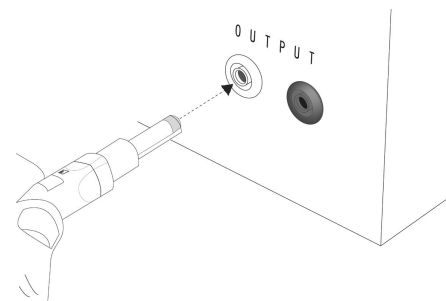

Fig. 2 C115CB male connector
5. Attach the connector cables C115CB to the output connector on the front of the device (Refer to Fig. 2)